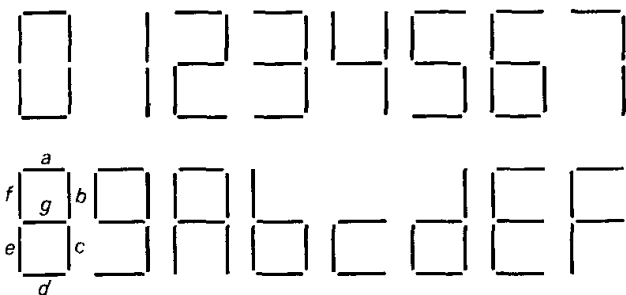

Figure 8.76. 7-segment display codes.
The inputs are the individual segment signals, which are always labeled *a–g*; see Figure 8.76, which also shows how the digits A–F are represented with 7-segment displays. Note that it is possible to represent 9 and C in two ways, both of which should be correctly recognized by our logic. For the PAL, we choose a 16L8,
Figure 8.77 is the input to CUPL. We assigned the (positive-true) segment drive signals *a–g* as inputs, and the (**negative-true**) hexadecimal bits DO–D3 as outputs. CUPL lets you define intermediate variables that can be used in later expressions; in this case it is convenient to define the obvious variables zero through *hexf*, the possible displayed digits in terms of the segment inputs. These are simply large product (AND) terms of the input segment variables, which you can read from the digit shapes in Figure 8.76. Finally, each binary output bit is written as the sum (OR) of the digit variables in which that bit is set. We've used negative-true levels because the 16L8 is an AND-NOR array, thus minimizing logic. This completes the logic specification to CUPL.